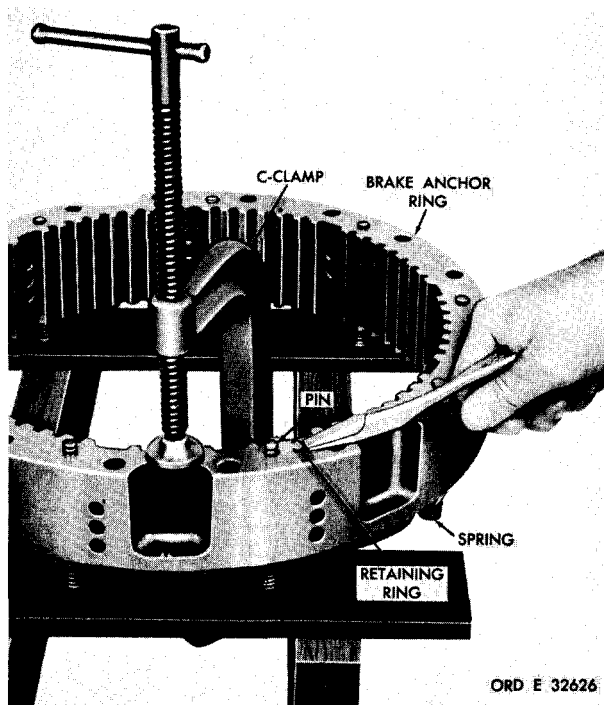

Figure 207. Removing (or installing) brake return guide pin retaining ring
(1) With the aid of a C-clamp, compress the brake release springs, and remove two retaining rings from the brake return guide pins (fig. 207).
(2) Remove the guide pins and return springs (fig. 207).
(3) Remove the remaining seven retaining rings, springs and guide pin, in the same manner as described in (1) and (2), above.
(1) Install the brake return guide pin and spring in the brake anchor ring (fig. 207).
(2) Using a C-clamp, compress the brake return spring, and install the retaining ring (fig. 207).
(3) Install the remaining eight brake return guide pins, springs and retaining rings in the same manner as described in (1) and (2), above.